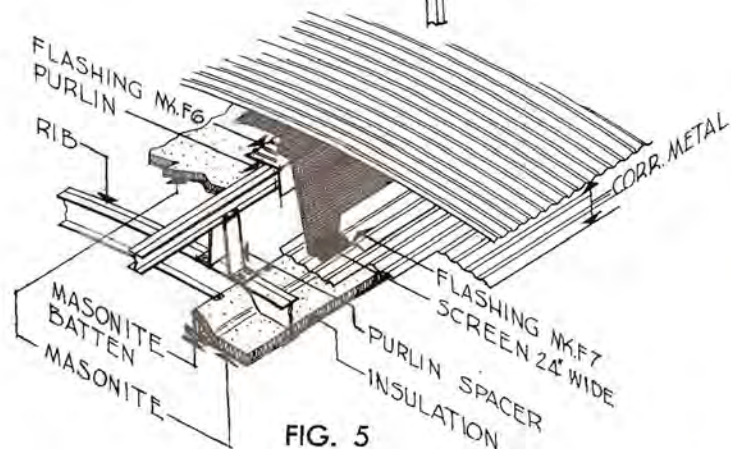

FIG. 5
2. Install inside covering as outlined on pages 12 and 13 with the following exception: do not cut 12 Masonite sheets Mk. "D" down in size. All "D" sheets (36) will be used as shipped. The tops of the "B" sheets are to be nailed to the trimmers and no splines are to be used at this point. Instead using 6d nails nail a 2" wide Masonite batten at the edge of the sheet, lining it with the edge of the steel trimmer. (See Fig. 5.) The three rows of Masonite sheets Mk. D. at the top of the hut will rest on the lower flanges of the raised purlins. Into the joint between sheets fit a short piece of spline so that it lays from purlin to purlin. Cut these short splines in the field from the 12' 0" splines not used in the remainder of the hut.
3. Stretch and lay the insulation as described on pages 14 and 15. After this is done cut the insulation from between the two trimmers at the top of the hut but leave enough margin at each side (2") to turn under and nail to the top of the half stud trimmers (see Fig. 5) with  $\frac{7}{8}$ " roofing nails. Take the pieces of insulation cut from between the trimmers and use them to lay over the raised portion of the inside covering.